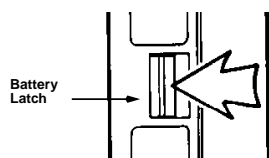

Figure 1.
2. Disengage the battery latch on the bottom of the radio by pushing and holding the latch towards the front of the radio. (See Figure 1.)